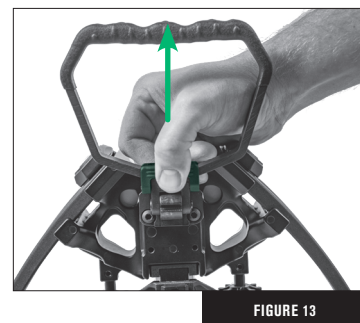

FIGURE 13
- ALWAYS make sure the crossbow is UNLOADED and the safety switch is in the (S)AFE position.
- To rotate the position of the folding stirrup from the full extend position, lift up the stirrup release lever found at the base of the of the cocking stirrup (Fig. 13).